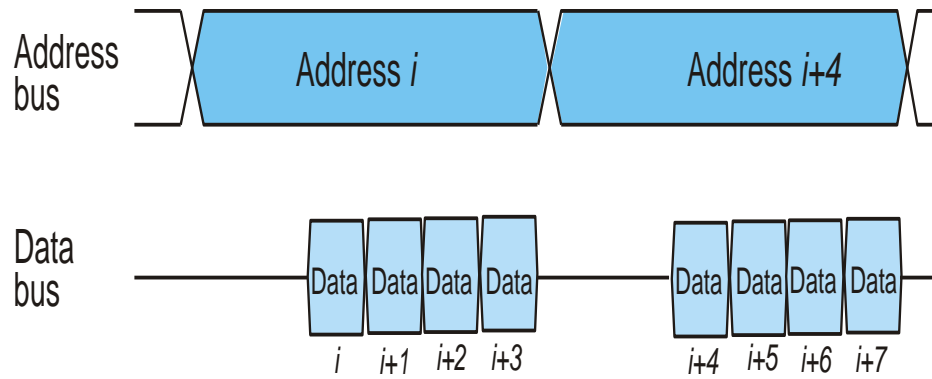

Figure 3: Burst Mode and Data
- **Figure 3** illustrates the concept of burst mode addressing where an address is transmitted for location i and data for locations i , $i+1$, $i+2$, and $i+3$ are transmitted without a further address